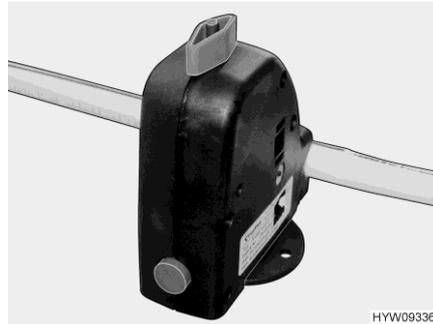

Fig. 101 Safety/drainage valve
- Open the safety/drainage valve (Fig. 101). To do this, turn the knob (Fig. 101) parallel to the safety/drainage valve.